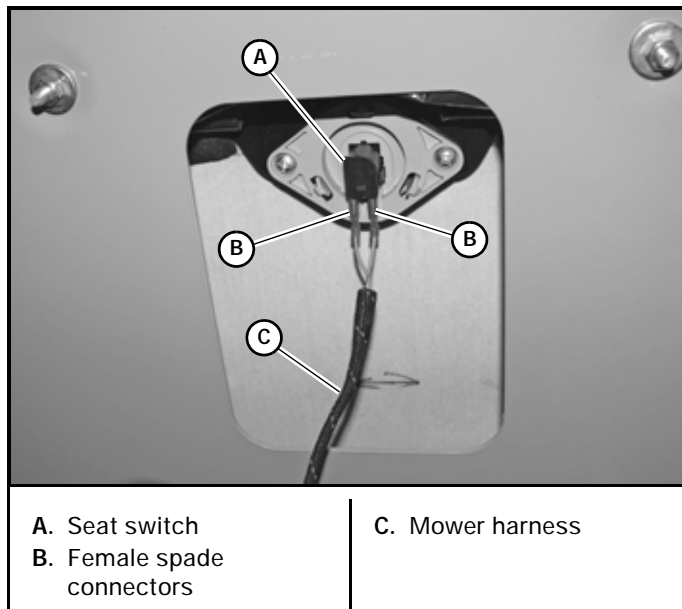
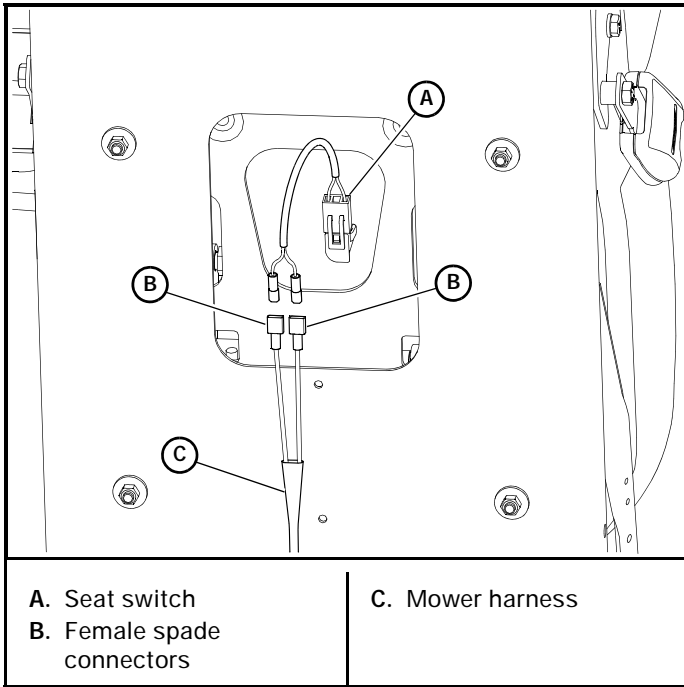

Figure 4-8
Figure 4-9
- Bypass the seat switch by connecting the two mower harness female spade connectors together. Figure 4-8 & Figure 4-9
- Reconnect them to the seat switch. This must be completed so that the safety circuit is functioning properly. Figure 4-8 & Figure 4-9